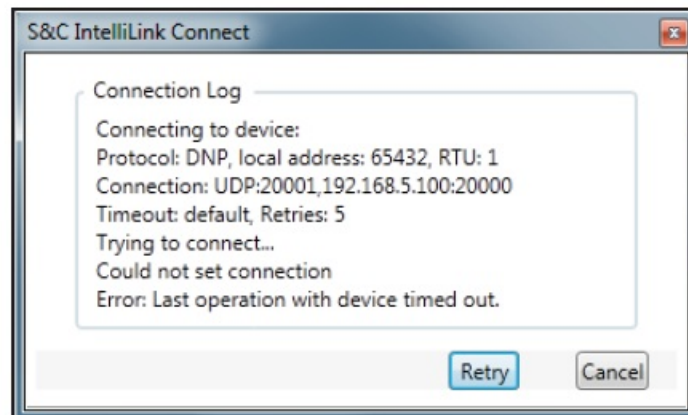

Figure 16. The IntelliLink Connect dialog box.
- **STEP 2.** When the IntelliLink software is launched, it is configured by default to connect to the control over a wireless link. It automatically attempts to establish this connection. Wait for the connection attempt to time-out. Messages in the IntelliLink Connect dialog box should be approximately the same as shown in Figure 16.